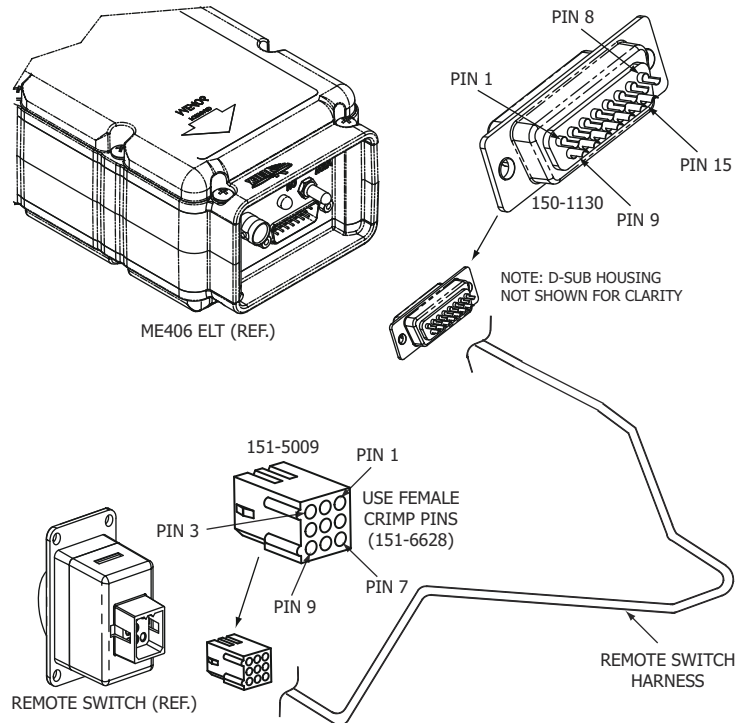

Figure 20 Remote Switch Harness Arrangement
- (1) See Figure 20 Remote Switch Harness Arrangement.